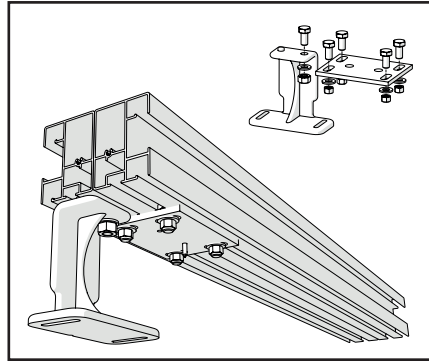

Fig. 14: placement support under left or right hand guide
- Note : the width of the roller box is always 40 mm more than the over-all width of the blind. (see figure 14 page 9)
- Check the attachment points (item 3.4).